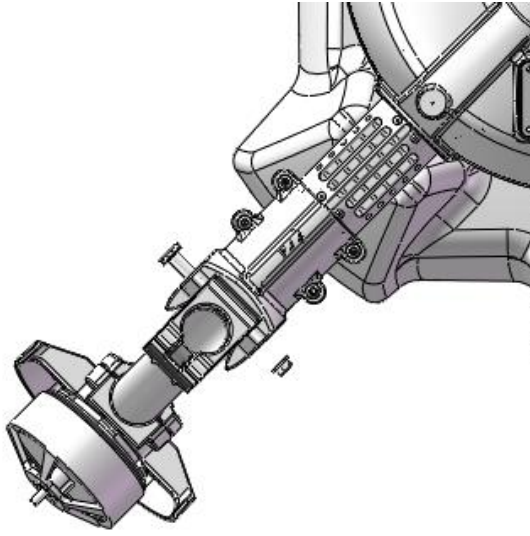

Figure 2-2
- 6) M5 nut should be tightened from the other side,see figure 2-2.